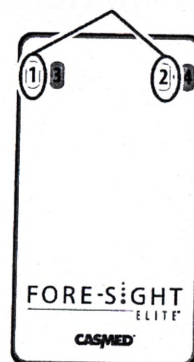

Figure 9: Preamp connected to Channels 1 & 2
5. Inspect the small box in the middle of the Preamp cable; when a Preamp cable is connected to the Oximeter, the white channel Indicators will be lit for the connected channel pair (Figure 9 shows a Preamp connected to Channels 1 & 2).